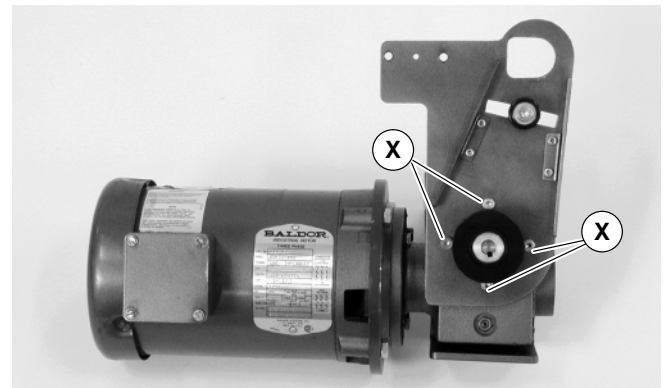
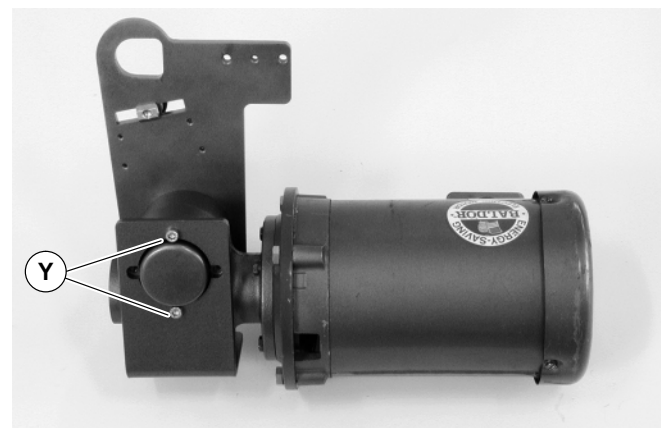

Figure 4
Figure 5
2. If required, change gearmotor position by removing four (4) screws (X of Figure 4) from bottom mount assembly and two (2) screws (Y of Figure 5) from gear reducer support. Rotate gearmotor to other position and replace screws. Tighten to 103 in-lb (12 Nm).